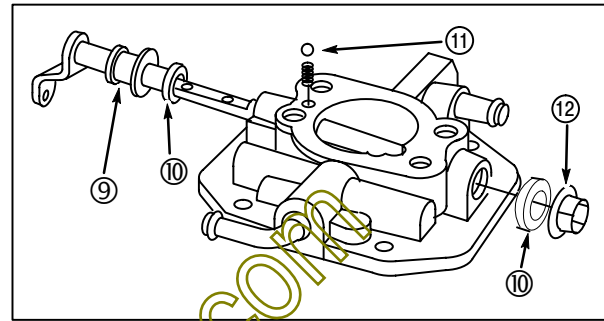

Fig. 108
7. Install new choke shaft seals (10) with sealing lip out, **Fig. 108.**
8. Assemble spacer (9) onto choke shaft.
9. Insert spring and check ball (11) in to spring pocket. Compress with a small round punch.
11. Install retainer (12) to shaft.